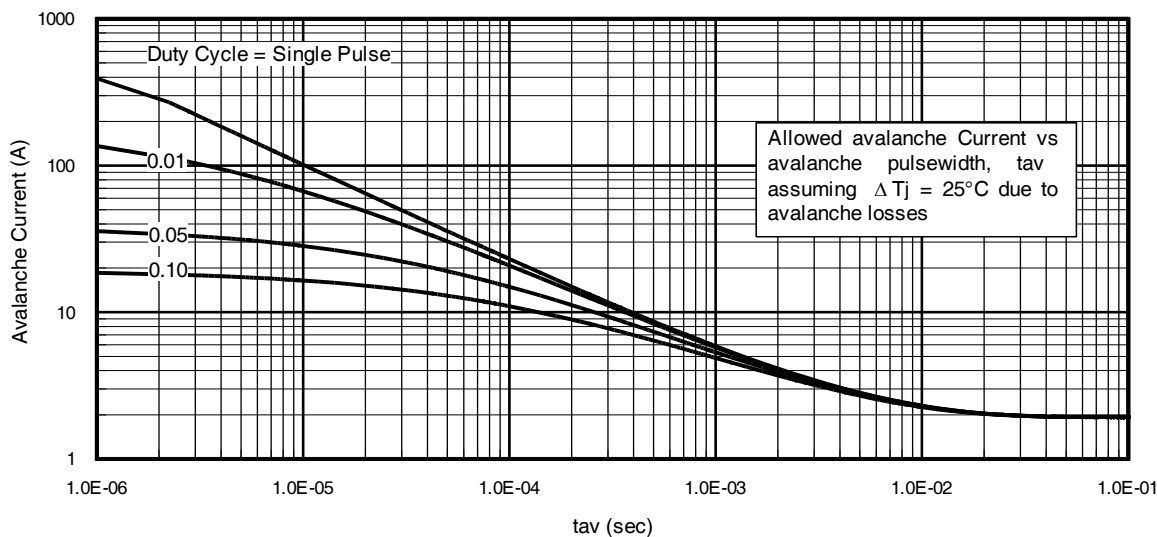

Fig 15. Typical Avalanche Current vs. Pulse width
Notes on Repetitive Avalanche Curves , Figures 15, 16:
7. ΔT = Allowable rise in junction temperature, not to exceed T_{jmax} (assumed as 25°C in Figure 15, 16).